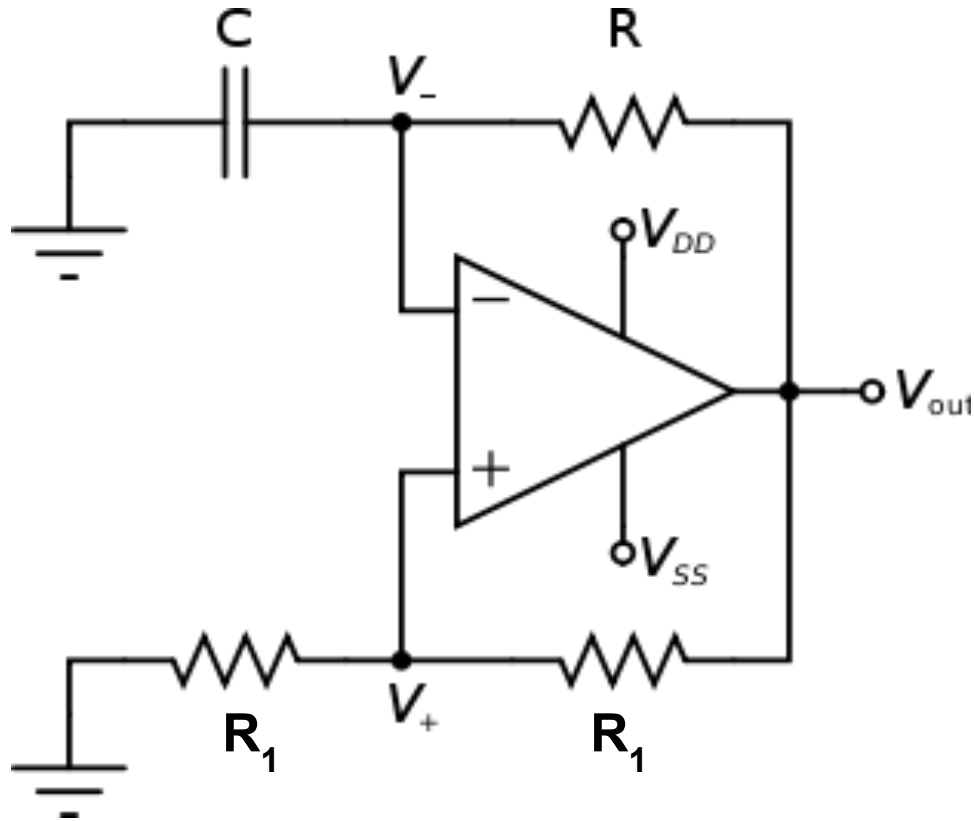

Fig 1. Relaxation Oscillator¹
i) Build the relaxation oscillator (Fig 1). Pick R and C based on your previous calculation. You can use a 100-k Ω potentiometer for R. Use a 20-k Ω resistor for R1. What is the oscillation frequency? Tune the potentiometer until the frequency of the square wave is 10 Hz and show it to your GSI.